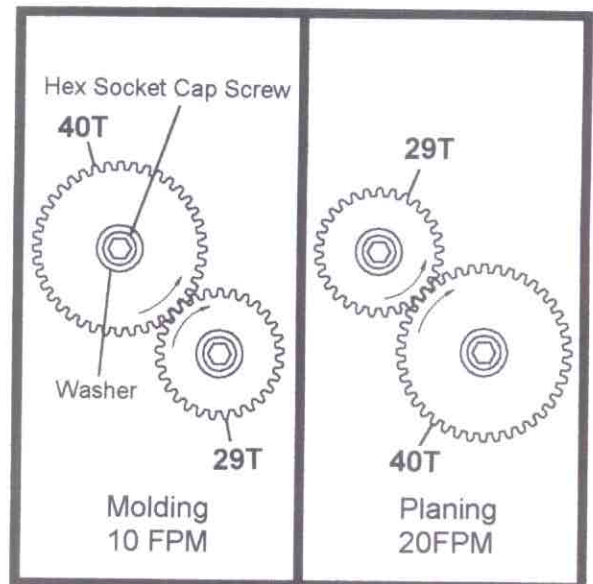

Fig. 7
4. Remove gears and position according to operation. See gear chart. (Fig. 7)